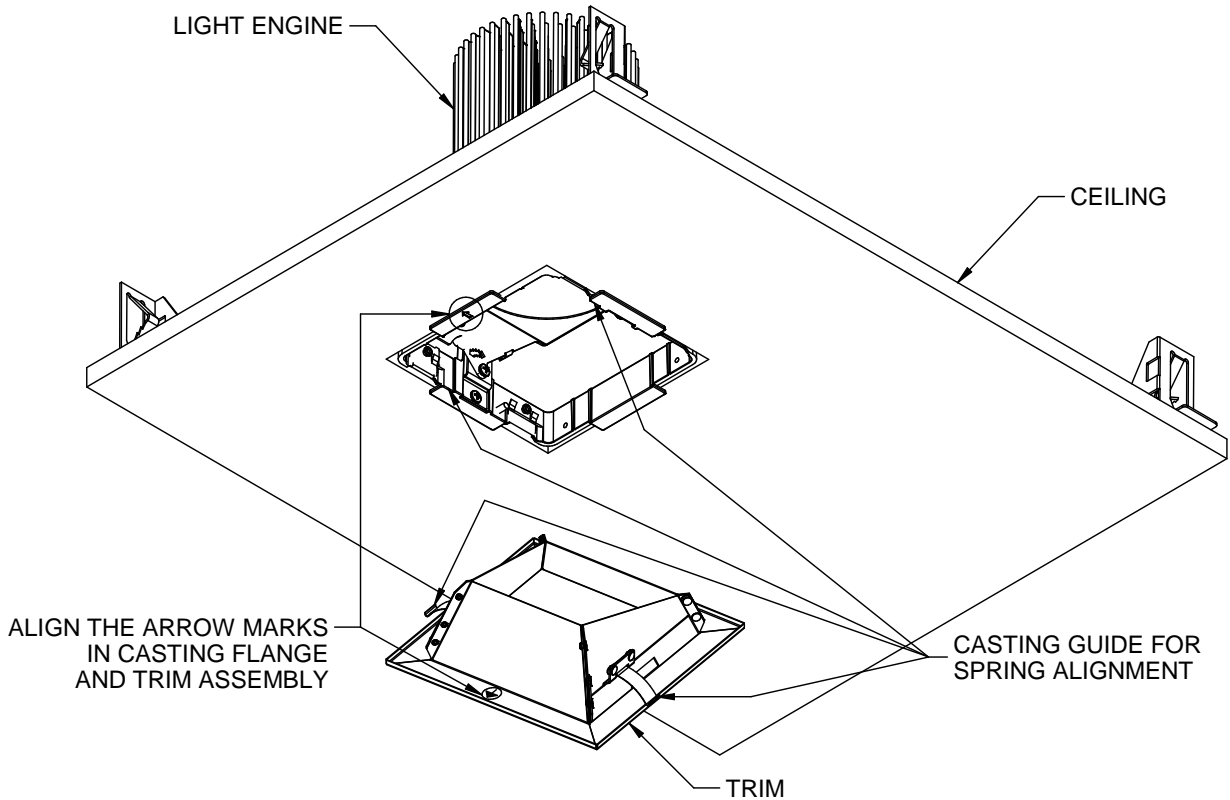

FIG 3.1
1. Install the lower trim assembly after the housing and light engine assemblies are installed in the finished ceiling and the light engine assembly adjustment has been aimed and locked into the desired position. Ensure the upper optic is properly seated to the LED holder and has not become dislodged during shipping or installation/adjustment of the fixture. Press both springs upwards and insert into the appropriate casting guide for spring alignment and gently push it against the ceiling. FIG 3.1.